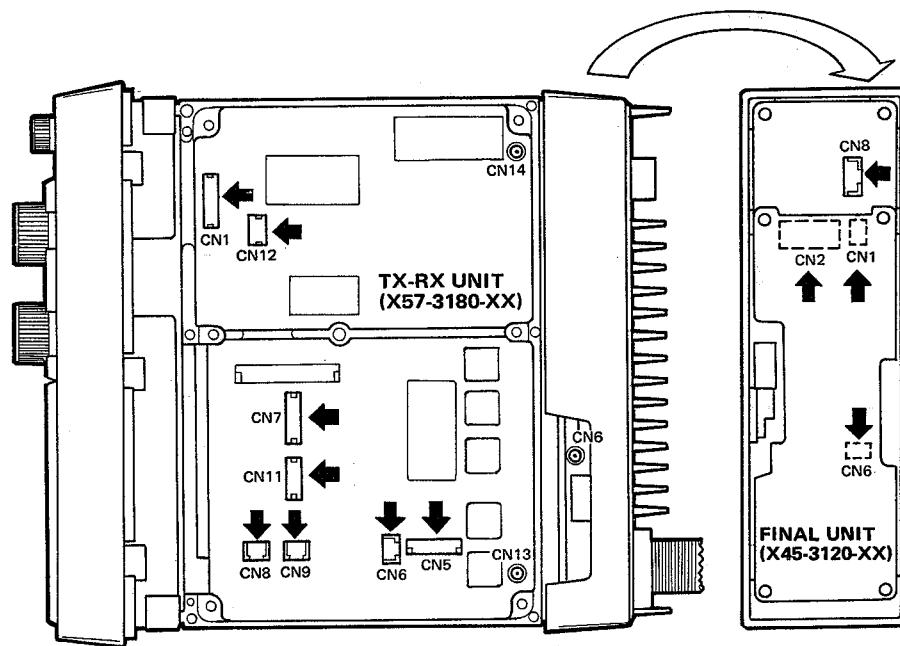

Fig. 3
1. Remove the four screws (⑤) from the side of the Final unit heat sink, and move the Final unit backward and out (⑥).
2. Remove the eight connectors from the TX-RX unit, and remove the two connectors and the two coaxial plugs from the Final unit (See Fig. 3).
3. Move the front panel toward the front and out (⑦).
4. Remove the four screws (⑧) retaining the Control unit, and disconnect the Control unit from the TX-RX connector (⑨).
5. Remove the leaf spring holding the three ICs to the frame, using a screwdriver (⑩).
6. Remove the seven screws from the bottom of the frame. Then remove the frame from the TX-RX unit (⑪).